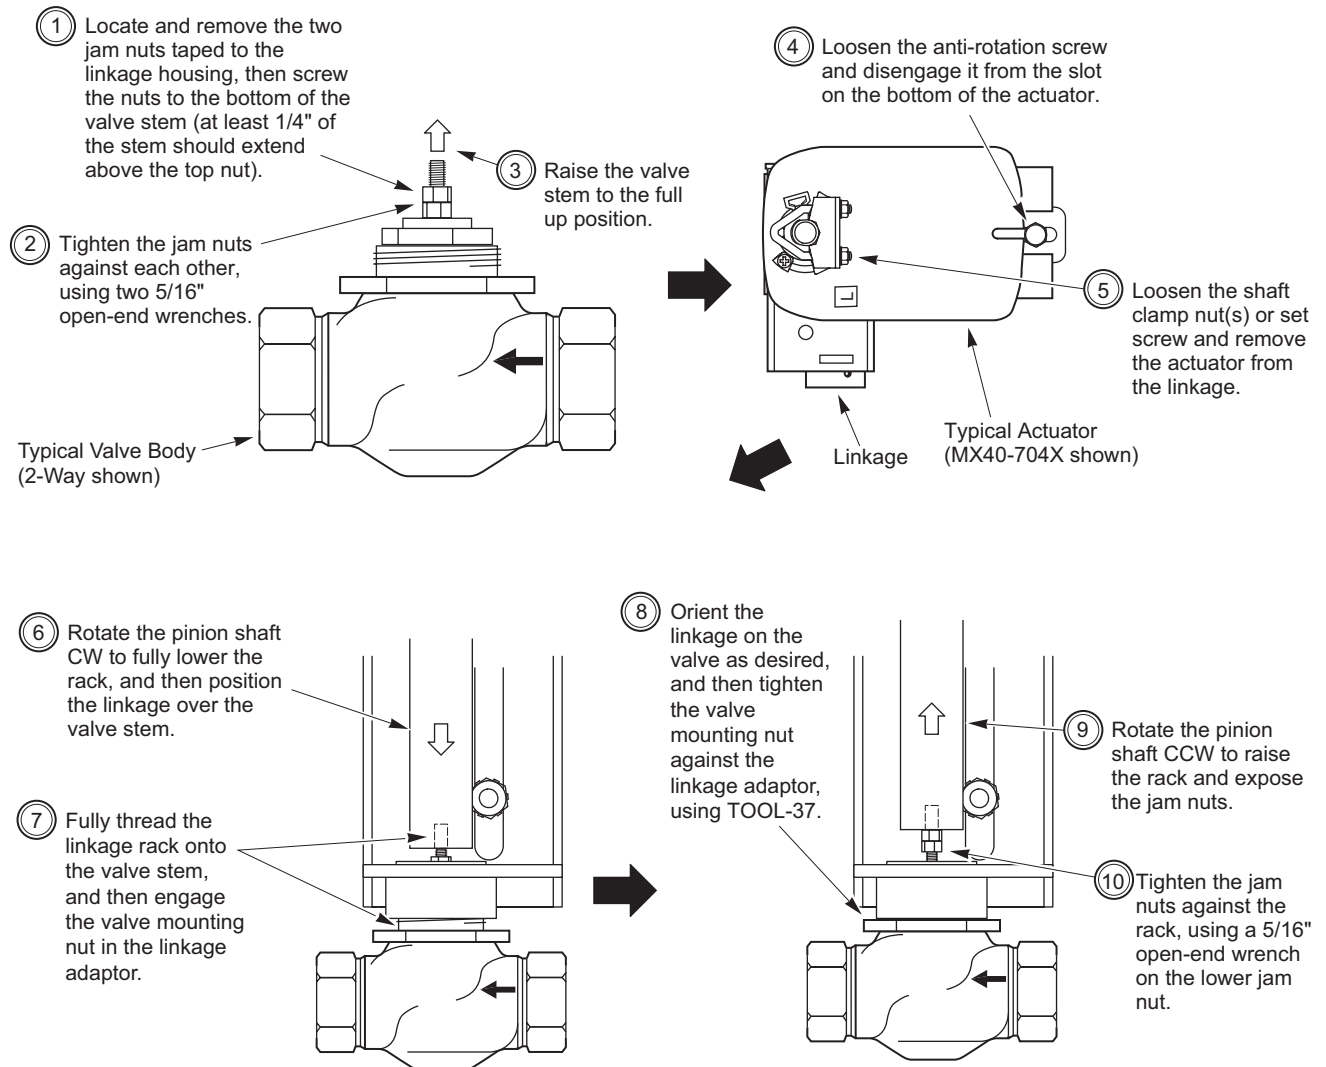

Figure-10 Assembling Linkage to Valve.
1. Assemble the linkage to the valve, according to Figure-10.